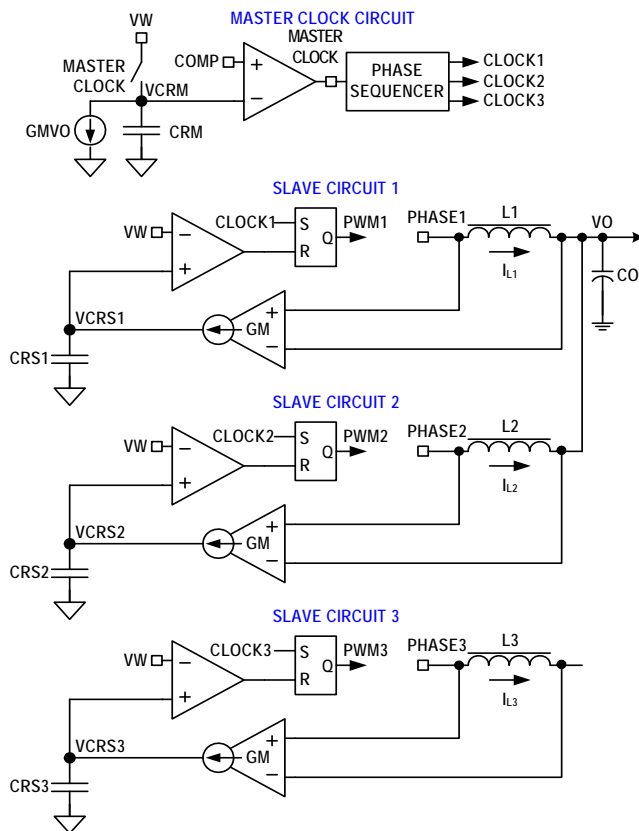
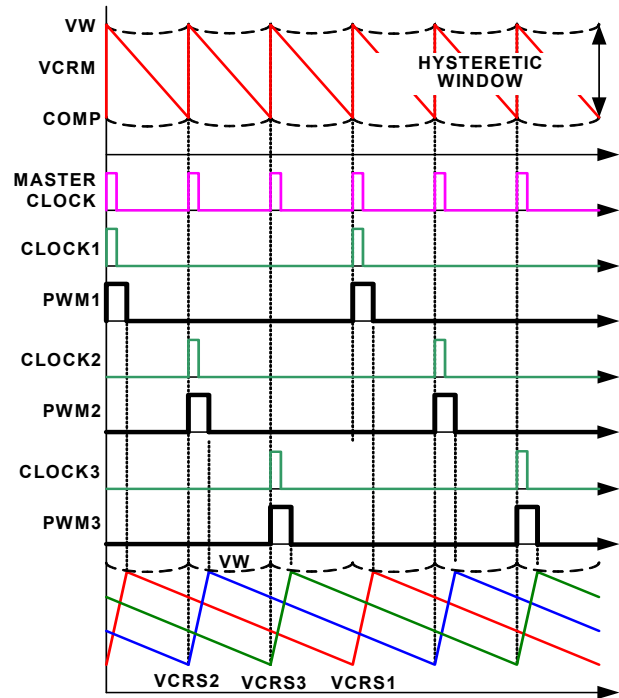

FIGURE 9. R3™ MODULATOR CIRCUIT
FIGURE 10. R3™ MODULATOR OPERATION PRINCIPLES IN STEADY STATE
The ISL62773 is a multiphase regulator implementing two voltage regulators, CORE VR and Northbridge (NB) VR, on one chip controlled by AMD's™ SVI2™ protocol. The CORE VR can be programmed for 1-, 2- or 3-phase operation. The Northbridge VR can be configured for 1- or 2-phase operation. Both regulators use the Intersil patented R3™ (Robust Ripple Regulator) modulator. The R3™ modulator combines the best features of fixed frequency PWM and hysteretic PWM while eliminating many of their shortcomings. Figure 9 conceptually shows the multiphase R3™ modulator circuit and Figure 10 shows the operation principles.